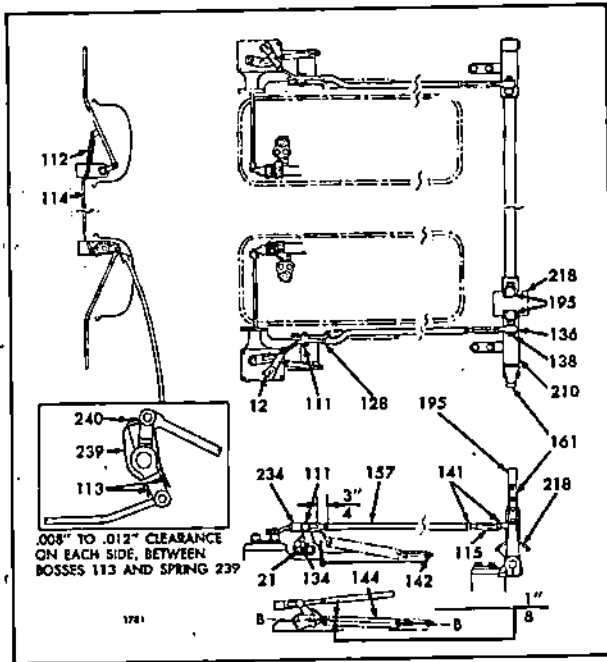
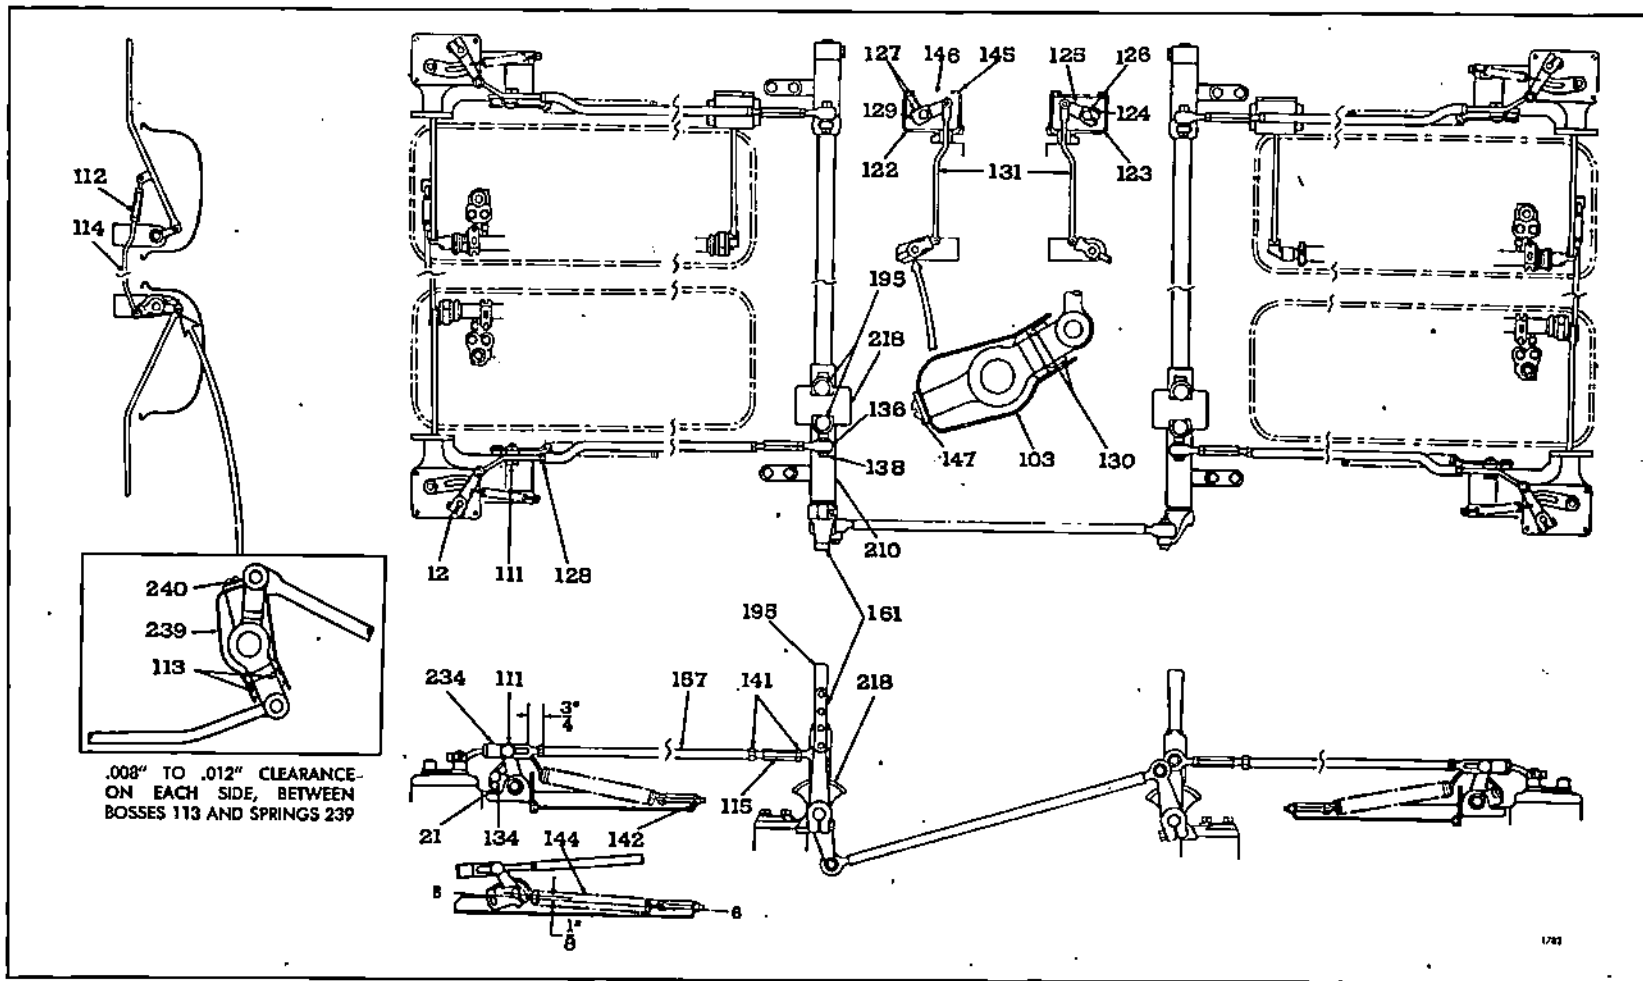

Fig. 31 - Diagram of Throttle Control Linkage for Twin Units With Variable Speed Mechanical Governors
Fig. 32 - Diagram of Throttle Control Linkage for Quad Units with Variable Speed Mechanical Governors
Disconnect the control rods (157) from the governor speed control levers (12). On the side by side twin units remove the cross link equalizer spring (239) from the cross link (114), Fig. 31. Loosen the screw (147) and remove the master control equalizer spring (103), Fig. 32, on quad units. Perform a tune-up on each engine before adjusting the throttle control linkage.
1. Check the control rod end link (234), Figs. 31 and 32, on each engine. Make sure the bolt
3. Move the master throttle control lever (161), Figs. 31 and 32, to the MAXIMUM SPEED position.
CAUTION: Use care when tightening the lock nuts to prevent misalignment of the rod end bearings (136), Figs. 31 and 32.
- a. Set the governor booster spring pin (134) 1/8" below the over-center line B-B, as shown in Figs. 31 and 32.
- c. Release each governor speed control lever (12) individually from its MAXIMUM SPEED position, and note its return to the IDLE position. The lever should return quickly.
- d. Loosen the throttle booster spring retaining nut on the governor control lever (21). Then loosen the nut and lock nut on the throttle booster spring eyebolt.
- e. Move the bolt as necessary in the slot of the lever to allow the speed control lever (21) to move from the MAXIMUM SPEED position to the IDLE position. Hold the bolt and tighten the spring retaining nut.
7. Reconnect the governor control rods (157) to the levers.
8. Set the gap between the end of link (234) and governor control lever (21) at 1/16" to 1/8" by adjusting the lever on its shaft. While setting the gap, the governor lever must be in the IDLE position, and the forward end of the slot in link (234) must be in contact with the lever-to-link bolt (111).
9. Secure the master throttle control lever (161) in the MAXIMUM SPEED position, then replace the link equalizer spring (239) and secure it with the screw (240).
10. Loosen the turnbuckle lock nuts (141).
Then adjust the master control equalizer between the front and rear engine pairs in the quad unit (Fig. 32).